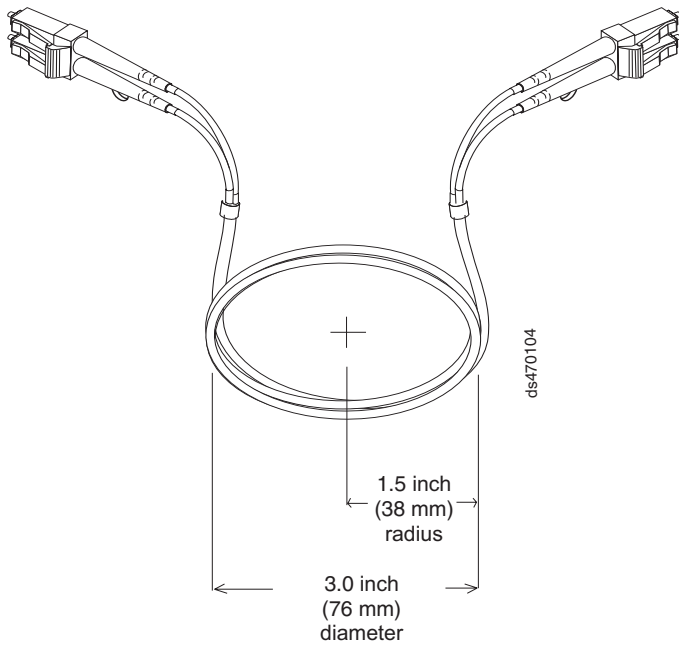

Figure 27. Recommended bending and looping specifications for fibre-optic cables
**Important:** IBM Fibre Channel (FC) cable options have been tested and approved for the IBM DS storage products. For optimal performance and compatibility, always use IBM FC cable options when installing the IBM DS products.
- When storing excess or unused fibre-optic cables, do not bend the cables to a diameter of less than 76 mm (3 in.), or a radius less than 38 mm (1.5 in.) or wrap them around themselves. See Figure 27 on page 48.